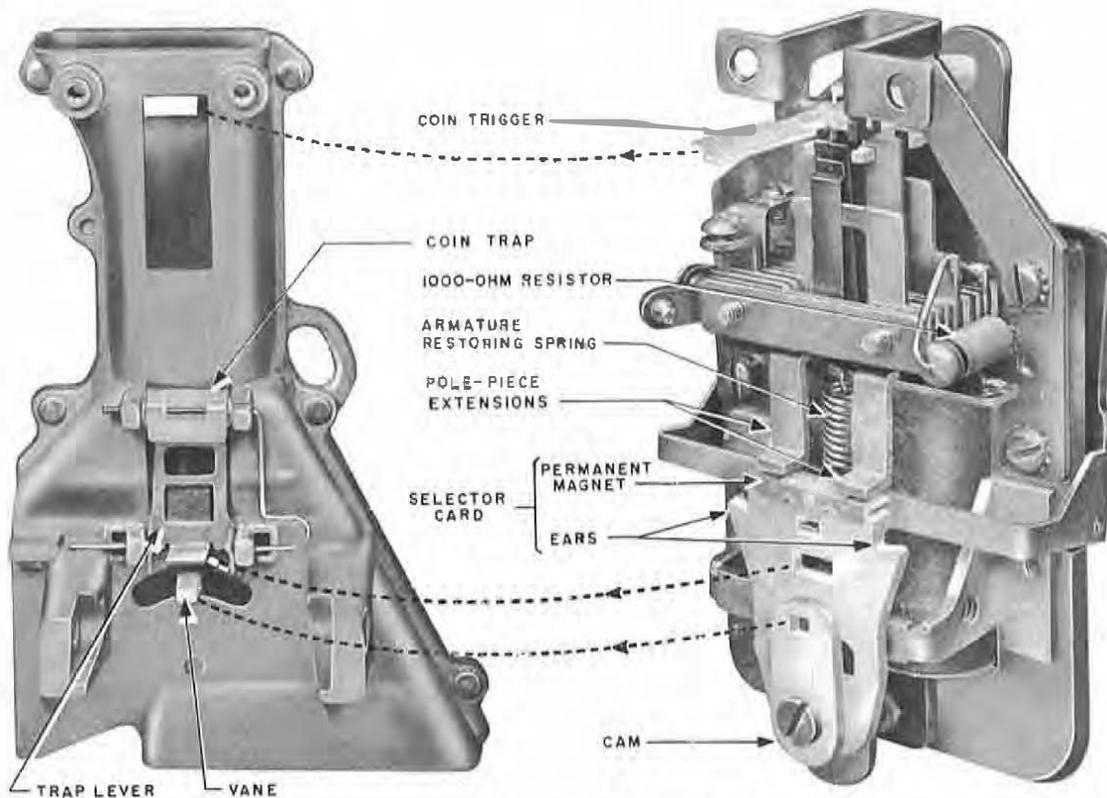

Fig. 6 — Coin Hopper and Rear View of P-10E786 Coin Relay
- (1) Move vane to collect position (left).
- (2) With trigger tripped, place relay on hopper arms.
- (3) Slide relay back until trigger enters opening in hopper and trap-lever tab just enters slot in selector card (Fig. 6).
- (4) Close relay armature manually by first pressing downward on ear on left side of selector card. With armature held closed and cam in collect position, slide relay back. Vane stem should enter hole in cam and mounting screws should line up.